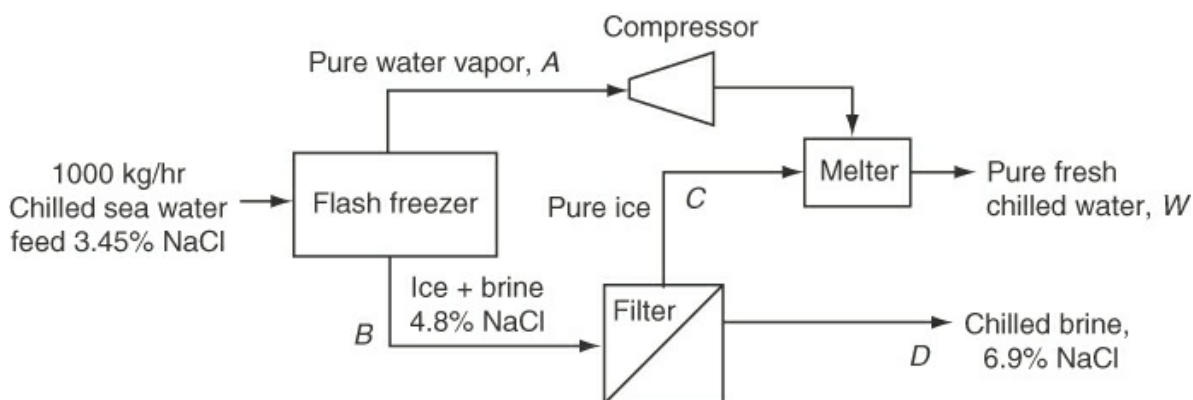

Figure SAT5.4P1
1. Figure SAT5.4P1 shows a schematic for making freshwater from seawater by freezing. The prechilled seawater is sprayed into a vacuum at a low pressure. The cooling required to freeze some of the feed seawater comes from evaporation of a fraction of the water entering the chamber. The concentration of the brine stream, B, is 4.8% salt. The pure salt-free water vapor is compressed and fed to a melter at a higher pressure, where the heat of condensation of the vapor is removed through the heat of fusion of the ice, which contains no salt. As a result, pure cold water and concentrated brine (6.9%) leave the process as products.